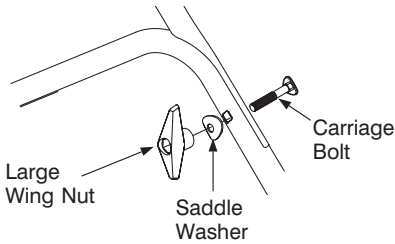

Figure 2
- Secure the upper handle to the lower handle using curved carriage bolts, saddle washers and large wing nuts, see Figure 2.